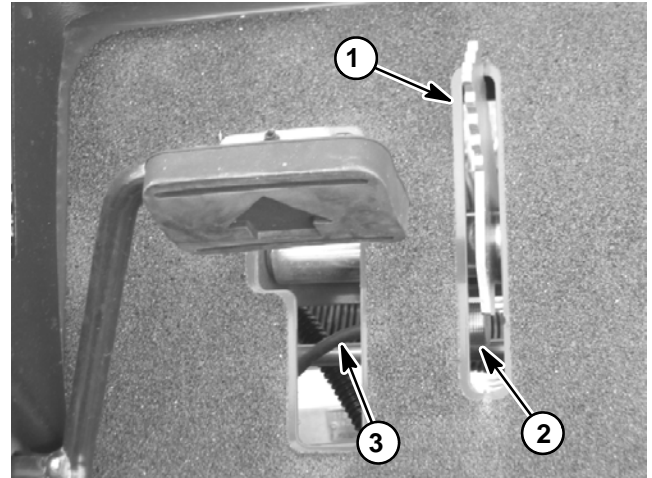

Figure 35
2. Turn ignition switch to the ON position (do not start engine) and check LED on cable end of mow/transport sensor (Fig. 35). LED **should be** illuminated when the mow speed limiter is in the TRANSPORT (2WD) position. The LED **should not be** illuminated when the limiter is in the MOW (4WD) position.